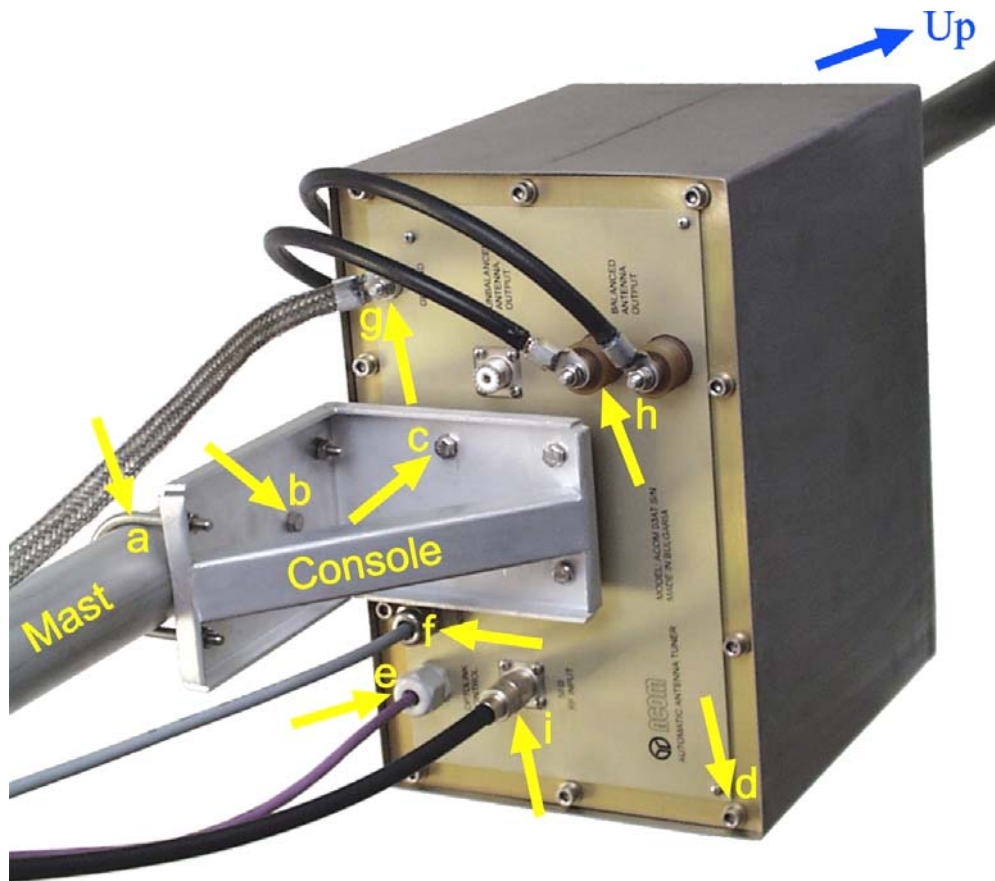
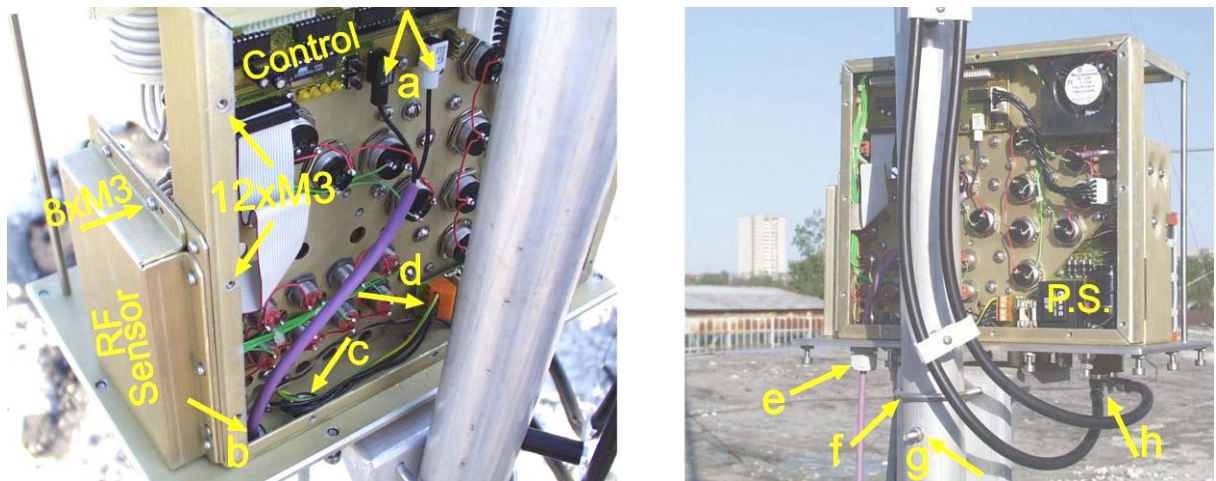
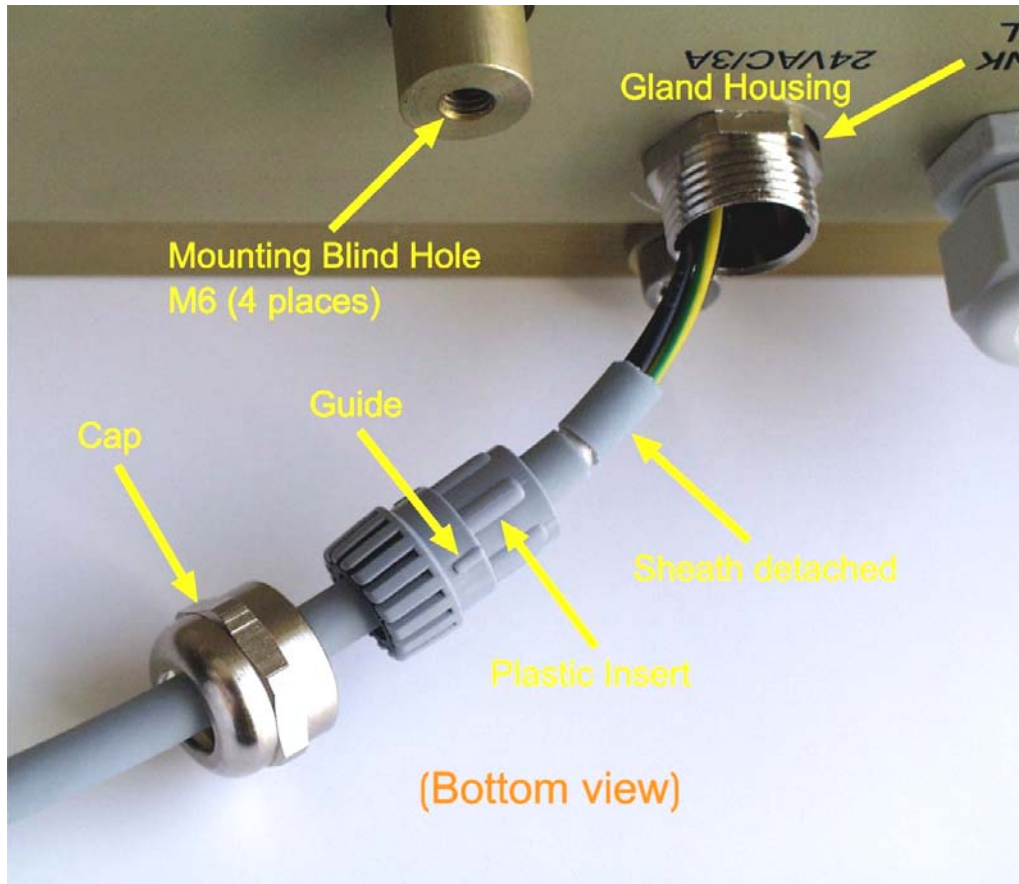

Fig.2-1. Remote AATU unit on-mast installation and cables arrangement (bottom view).
Fig.2-2. Remote unit connections
Fig.2-4 Power supply cable gland of the remote unit (bottom view).
a) Mount the AATU installation console to the antenna mast at a height at least 80cm (2.6 feet). This is needed in order that winter snow cannot reach the height of the unit. Use both U-bolts M6 and the fixing screw M6x70mm (supplied) – see fig.2-1,a,b & 2-2,f,g. Do not miss the fixing screw that avoids turning the unit around the mast.
b) Place the remote unit on the installed console and orient it with the hood head upward and the connectors downward (see fig.2-1 and 2-2). You may need an assistant for the next operation.
Settle carefully the unit onto the console and align its four installation blind holes (M6 threaded – see fig.2-4) to the corresponding console holes.
An assistant may be needed at this point to hold the unit steady while you screw in the four screws M6x16mm (fig.2-1,c) loosely. Tighten them properly using a 5mm (0,2") Allan key.
c) Using a 5mm (0,2") Allan key unscrew all 10 captive screws M6 located on the bottom panel of the unit (see fig.2-1,d). Pull the metal hood upwards carefully and remove it. Using a "Philips 1" screwdriver, unscrew all 12 M3x8mm screws that hold the rear lid of the unit. Carefully slip it off in order to get access to the Printed Circuit Boards "Power Supply" and "Control". On the "Control" PCB find the two optic devices, marked U10 and U11 on the PCB, and having knurled plastic nuts, permanently installed on their optic connectors (a split-socket type to tighten the optic-cable cores) - see fig.2-2,a & 2-3. The black-case device is the photo detector receiver while the white-case is the optic emitter. For now, as the other cable end is still not connected, it is meaningless which core to which device shall be connected. Identifying is easy on the second end at the first power on see S.2-4(c).
d) Unscrew the plastic cable-gland cap (marked "OPTOLINK CONTROL" on the bottom panel - fig.2-1,e & 2-2,e) and thread it over the optic cable in such direction as to be able to screw it onto the same cable gland later. Push the bared optic cable end into the cable-gland hole and direct it to both optic-device apertures (fig.2-2,a-b & 2-3).
Push 2-3cm (one inch) more cable length into the cable gland (so that not to stretch the inside cable length after having it connected to the optic devices (fig.2-2,a-b) and tighten the cable-gland cap using a wrench sized 22mm (7/8”). Use only enough force while tightening in order that the cable be tight and could not slip out when pulled occasionally (do not overdo it since a cable-gland destruction is likely).
e) Unscrew the metal cable-gland cap (marked “24VAC/3A” on the bottom panel (see fig.2-1,f) and thread it over the bared end of the four-core screened power-supply cable in such direction as to be able to screw it onto the same place later. Take out the plastic insert from the cable gland housing. Thread the insert over the cable end in such a direction, that its split end be next to the metal cap, and the slender end – to the cable bared tag (see fig.2-4).
Holding the plastic insert fixed to the cable, push all four cable cores into the gland housing and direct them toward the "Power Supply" PCB inside (fig.2-2,c-d). Use a small rotation around the insert axis in order to align its three guides to the corresponding grooves in the metal housing, then carefully shove the insert into the gland body, together with the shaped cable. Now, press the insert inwards in a manner that the back-folded braid touches the metal-housing head closely, and while holding it in this position, screw in the metal cap against stop. Finally, tighten the cap using a wrench size 20mm (25/32"). Use only enough force while tightening in order that the cable be tight and could not slip out when pulled occasionally (do not overdo in order not to damage the gland thread).
f) Inside the remote unit, direct the cable cores to both terminal pairs located on the “Power Supply” PCB, that are marked J1 & J2 (~24VAC) – see fig. 2-2,c-d and 2-6. The power supply is applied through each pair in parallel (each pair is one pole of the power supply).
Slip on the protective metal hood and lower it carefully downwards until it stops onto the bottom panel of the unit. Screw in loosely all 10 captive screws M6 (located on the bottom panel - see fig.2-1,d). Then tighten properly using a 5mm (0,2") Allan key.
h) Connect the remote-unit grounding clamp, marked "GROUND" on the bottom panel, to the lightning-protection grounding system (see fig.2-1,g).
i) Connect the balanced antenna feeder to the terminals marked "BALANCED ANTENNA OUTPUT" on the bottom panel (see fig.2-1,i & 2-2,h). Shape its leads in an order not to permit accessing the AATU case or any grounded part of the installation.
j) Connect the RF coaxial cable to the coaxial connector marked "50Ω RF INPUT" on the bottom panel (see fig.2-1,i). Use cable type RG-213 or equivalent.